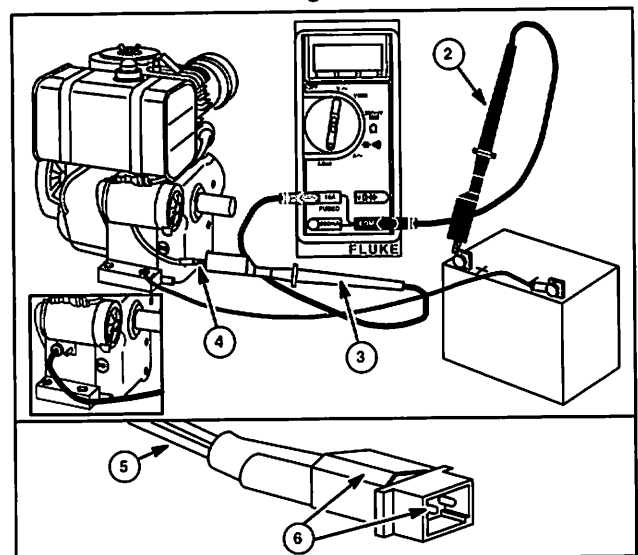

Fig. 17
See Fig. 17 for Dual Circuit alternator. The RED wire (5) is DC output. The bump on the connector indicates the DC output terminal (6)
5. Attach BLACK test clip (2) to the positive (+) battery terminal or charging harness lead (1).